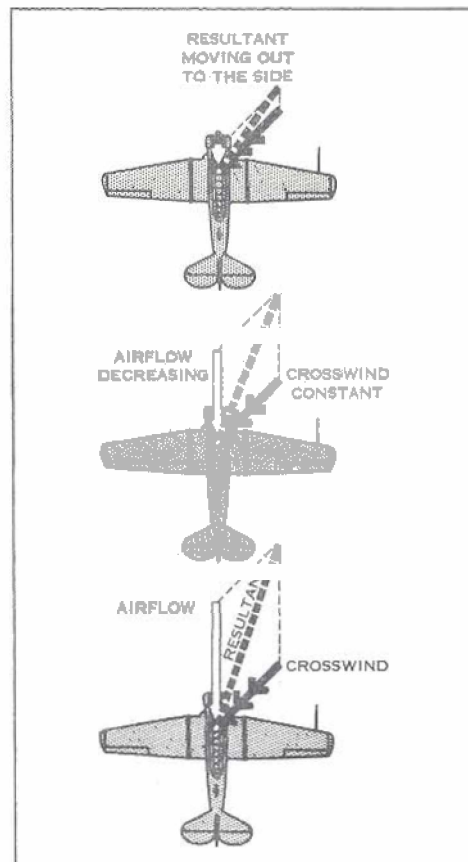

Figure 3: The Effect of Crosswind on the After-Landing Roll
(1) During the after-landing roll in a cross-wind, the relative airflow strikes the aircraft from straight ahead while the cross-wind strikes it to one side. Somewhere between the two there is a resultant component, the angle and magnitude of which depends on the speed and direction of these two airflows. As the forward speed drops, the resultant moves towards the cross-wind component, since the relative airflow is diminishing while the cross-wind is remaining constant. (Figure 3) In the case of the Harvard, which has more side area behind the undercarriage than in front of it, this means that the force of the cross-wind tends to turn the nose into wind. This tendency is called "weathercocking" and becomes more noticeable as the forward speed decreases. Weathercocking is combated by rudder and brake applications to maintain directional control, and by lowering the up-wind aileron as explained in Art 6.04 (10).
(2) Applying aileron, besides preventing the up-wind wing from rising, has the effect of producing a yawing arm to resist weathercocking. This occurs because the lowered aileron on the down-wind wing creates drag and, being located near the wing tip, supplies a counteracting force.